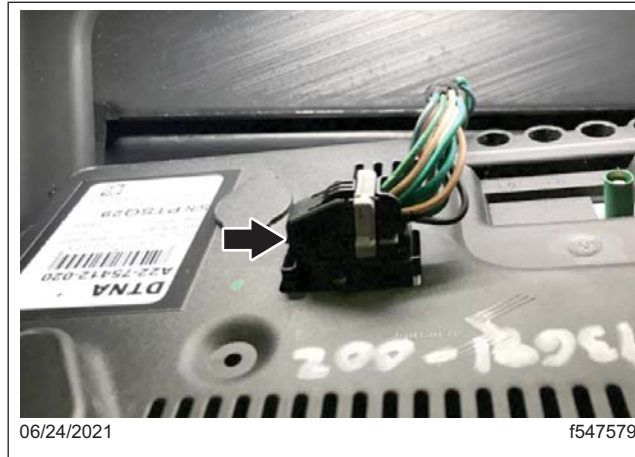

Fig. 6, Electrical Connector on the ICUC
8. Disconnect the electrical connector from the ICUC. See Fig. 6.